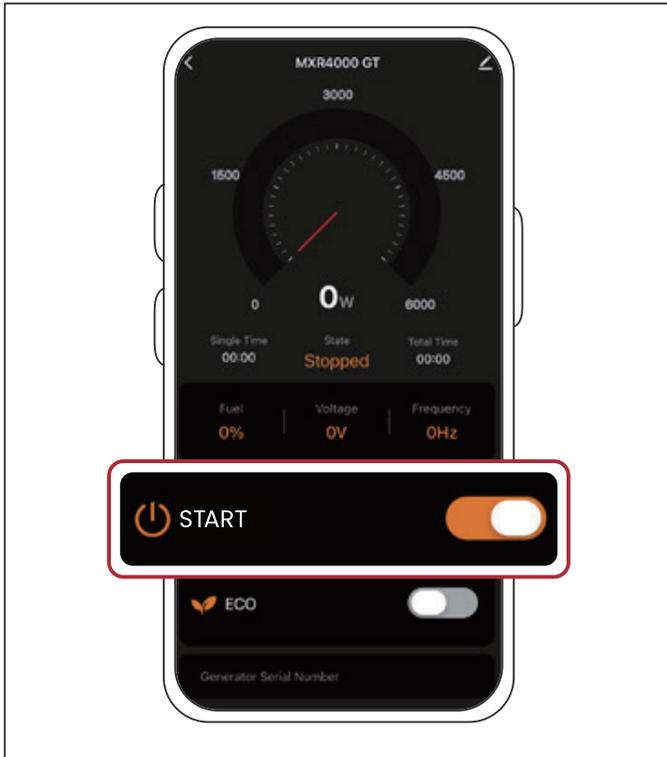

Fig.16
- (3) **Bluetooth® Start:** Press the start button on the App to start the generator (see **Fig.16**).